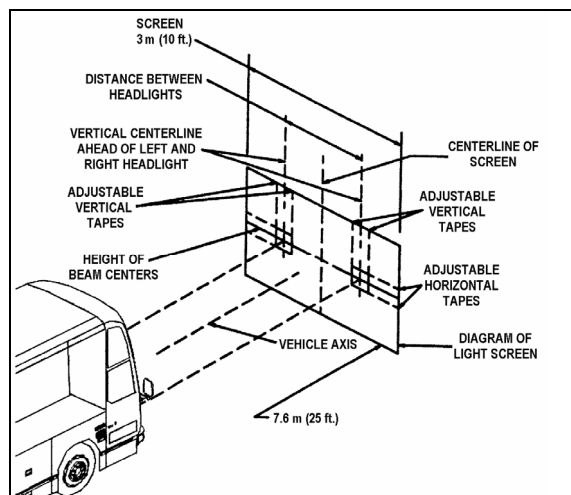

FIGURE 31: ALIGNMENT OF HEADLIGHT AIMING SCREEN 06502
3. The headlight centerlines shall be spaced either side of the fixed centerline on the screen by $\frac{1}{2}$ the lateral distance between the light source centers of the pertinent headlights. The horizontal tapes should be located on the screen at the upper and lower limits called for in the specification with reference to the height of beam centers and the plane on which the vehicle rests, not the floor on which the screen rests (Fig. 31).